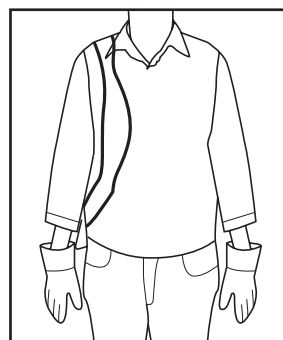

Fig. 18
2. Place the harness (29) so that it runs over your right shoulder. The securing clip must be located at the right hip (Fig.18).